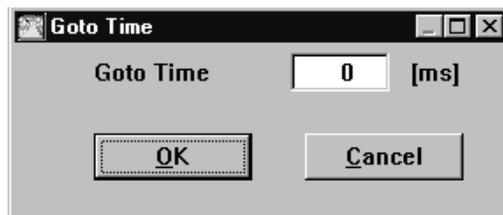

Fig. 34 The go to time dialogue box.
- 1 Select **Go to time** to move the visible screen area to the time entered in the **Go to time** dialogue box shown in Fig. 34. The time entered in milliseconds is placed in the middle of the screen.